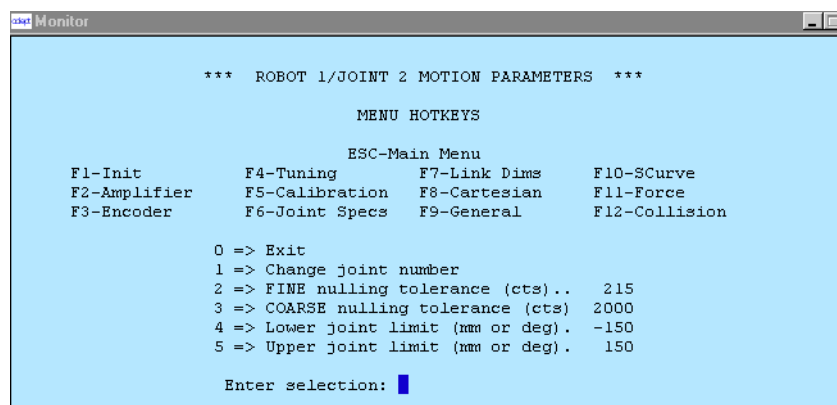

Figure 6-24. Joint 2 Motion Parameters Menu
4. In the next menu, select option 1 => Change joint number, and enter 2. Verify this at the top of the screen as shown in Figure 6-24.